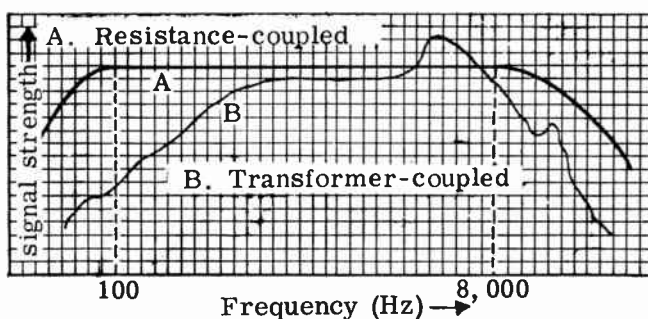

FIG. 9-12. FREQUENCY RESPONSE CURVE.
**FREQUENCY RESPONSE.** An amplifier is said to have a **FLAT FREQUENCY RESPONSE** if it amplifies equally all frequencies applied to its input. A frequency response curve is a graph which plots the amplifier voltage output in either volts or similar units over a frequency range. Fig. 9-12 gives the frequency response curves for a transformer-coupled audio amplifier and an R-C coupled audio amplifier. The R-C amplifier has the flatter curve and has, therefore, a flatter frequency response. A flatter response means better fidelity.